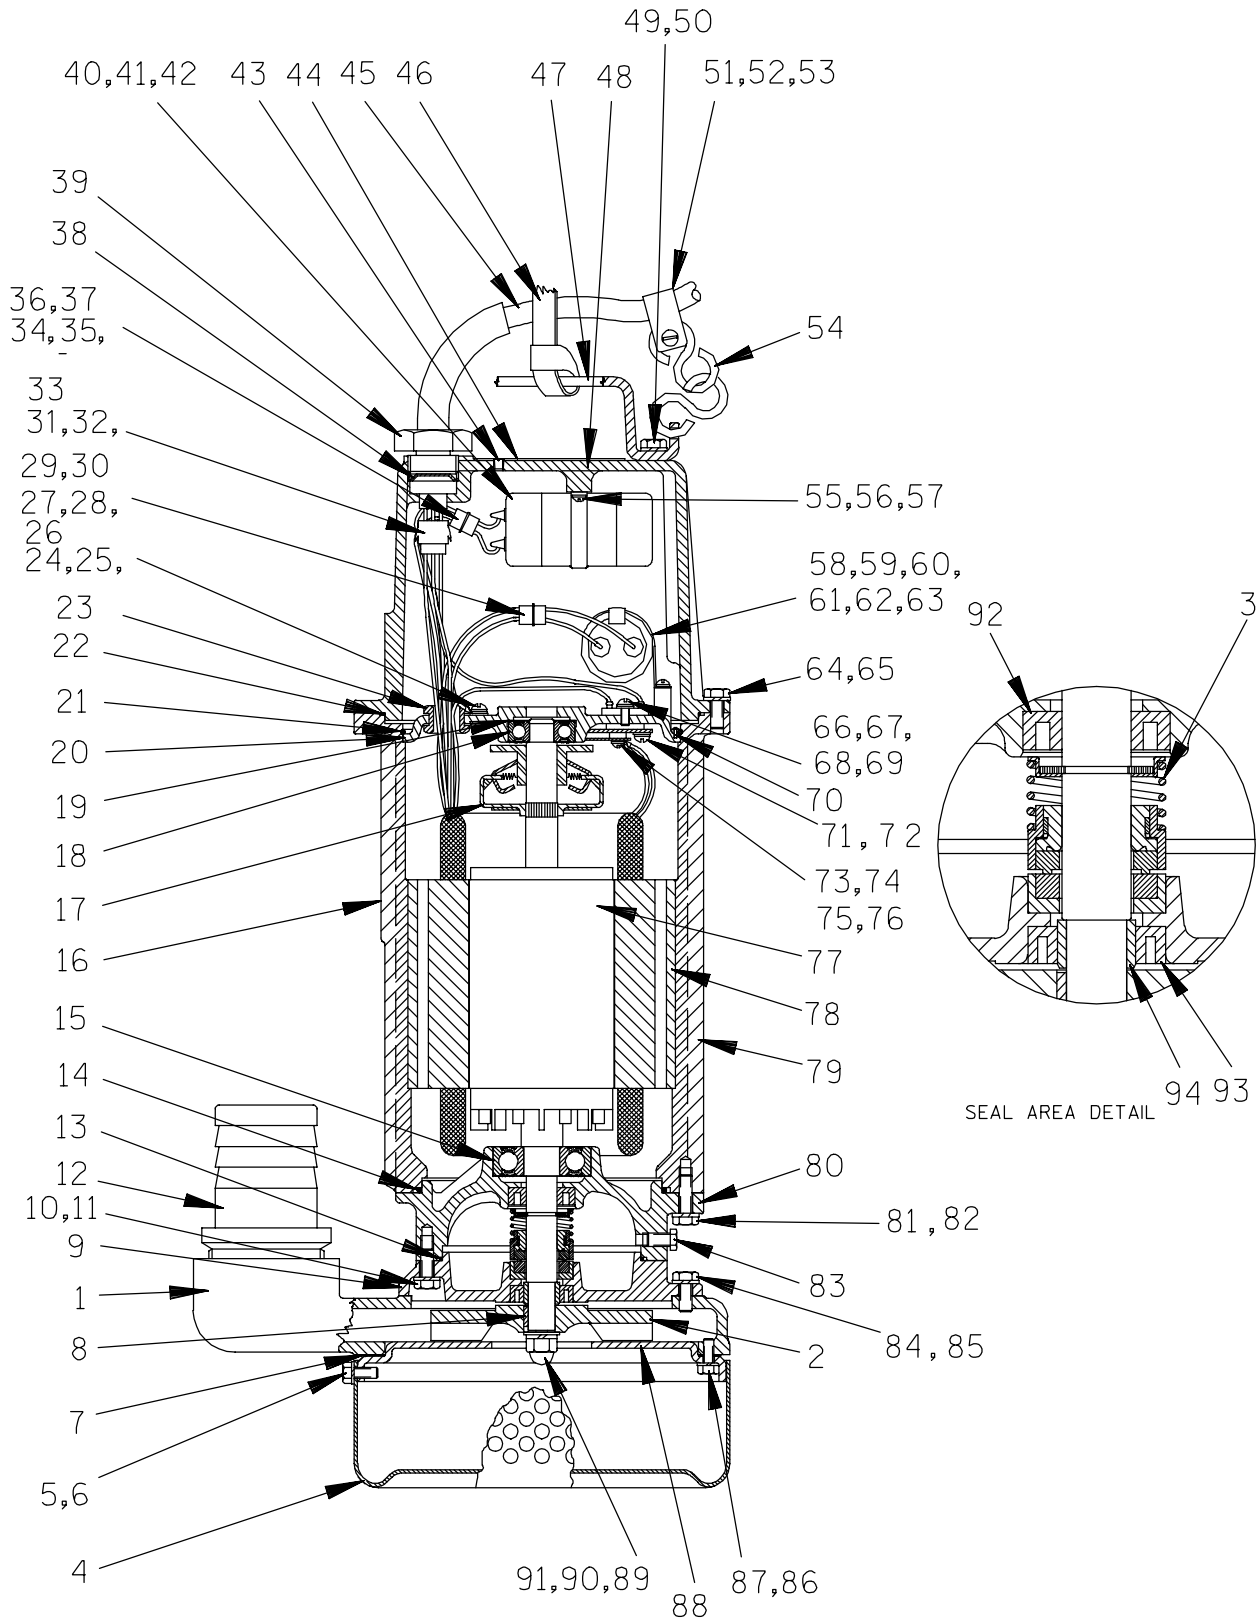

Figure C-1. Typical S2D3 Series Pump Assembly
- a. See Figure C-1 in Section C, and disconnect the pin housing and socket housing to disconnect the leads to the capacitor.
- b. Place a test lead against each of the capacitor terminals for a few seconds. If the ohmmeter needle moves toward zero, then slowly drifts back to the left, the capacitor is good. If the needle remains at infinity (1) the capacitor is open. If the needle remains at zero, the capacitor is shorted. In either case, the capacitor must be replaced.
- c. Check for grounding by touching one test lead to the capacitor case and the other lead to each of the capacitor terminals in turn. The ohmmeter should read infinity (1); if it does not, the capacitor is grounded and must be replaced.